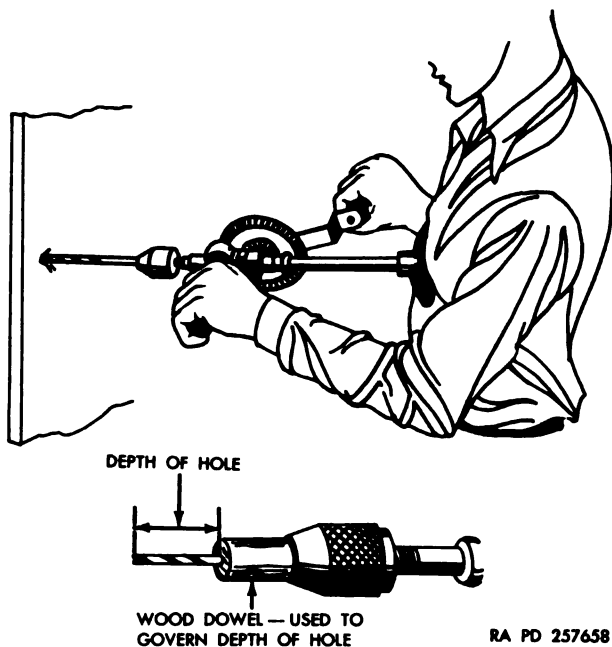

Figure 188. Using a breast drill and a wood dowel.
c. To drill holes of uniform depth, make a depth gage or dowel. Cut a piece of wood the exact length, so the twist drill will project the desired depth when the piece of wood is drilled and slipped over the twist drill (fig. 188).
speed; high or low. Hold the drill perpendicular to the work. Grasp the side handle with one hand and turn the frame handle with your other hand (fig. 188). Apply a steady, even pressure with your body.